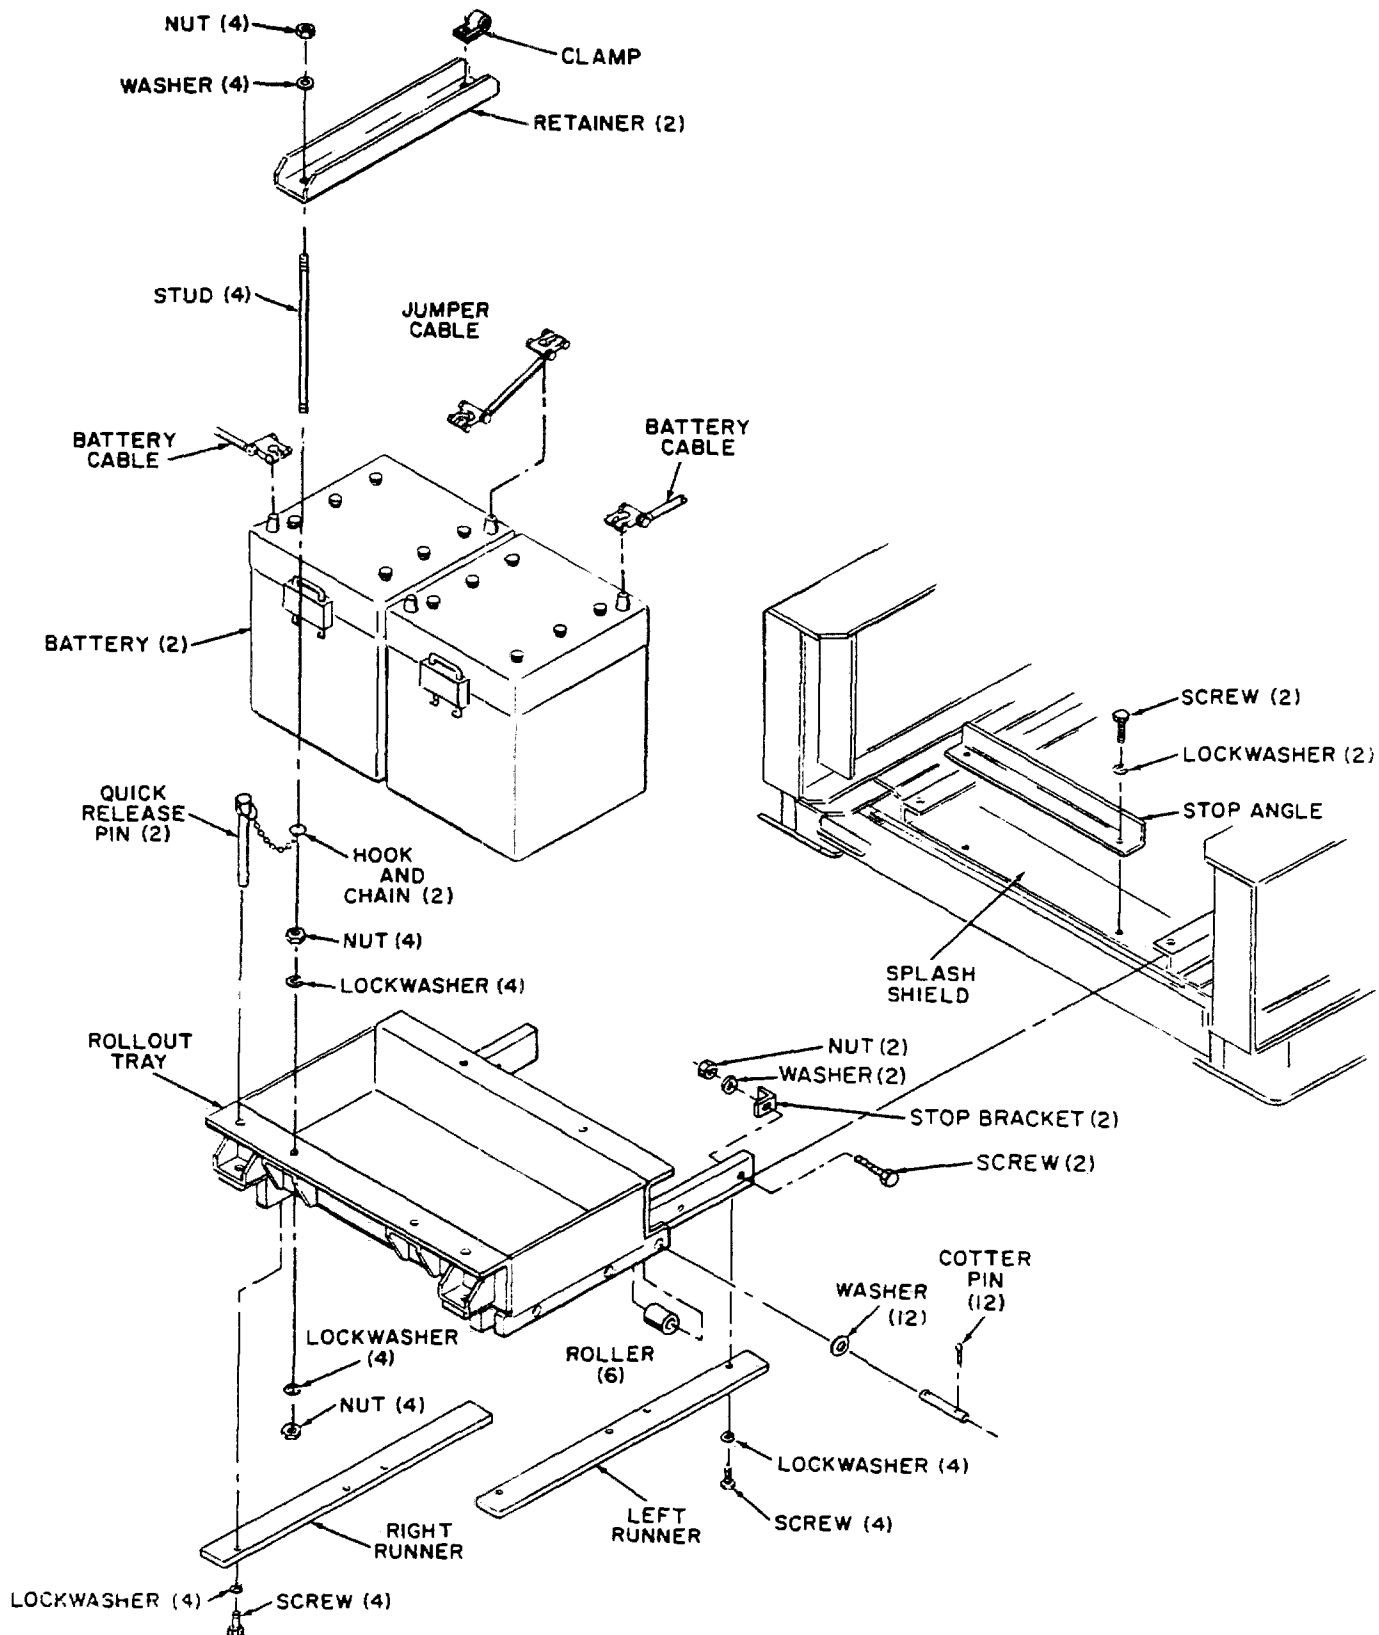

Figure 4-13. Batteries and Rollout Tray, Exploded View
(a) Remove quick release pins (figure 4-13), and rollout battery tray, to gain access to batteries and remove battery filler caps.
(2) Removal and Disassembly. Remove and disassemble batteries and rollout tray as illustrated in figure 4-13, observing the following:
(4) Reassembly and Installation. Reassemble and install batteries and rollout tray as illustrated in figure 4-13, observing the following: